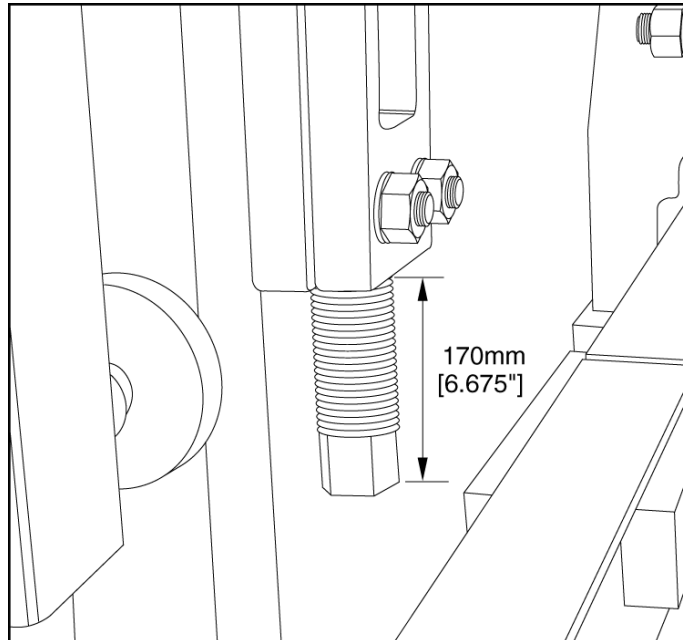

Figure 4.60 UPPER HEIGHT STOPS
- 4.4.6 Adjust the upper height stops (**part #047356**) so that **170mm [6.675"]** extend past the bottom of the castings (figure 4.60).